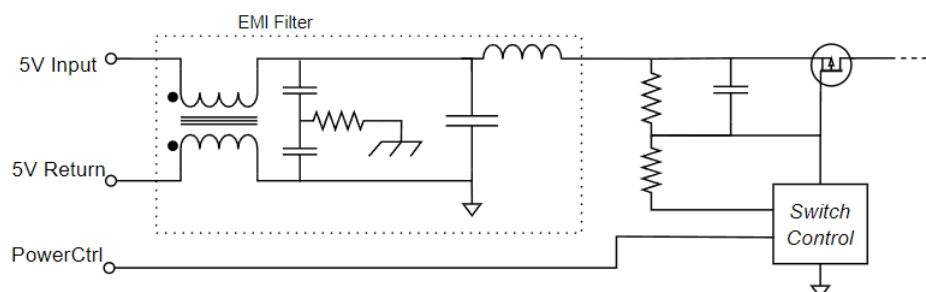

Figure 4-17: Imager Power Interface Schematic
The Imager requires a regulated 5 V $\pm$ 5% Direct Current (DC) supply at a current of at least 1.8 A. This DC input power supply is filtered on the CE using a discrete Electro-Magnetic Interference (EMI) filter. A simplified schematic of the Power Interface is shown in Figure 4-17.